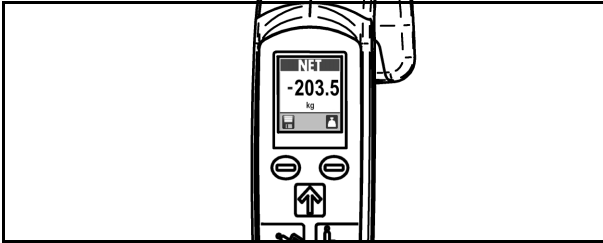

Fig. 64
- Reinstall the sling back on the Maxi Move. Ignore the minus sign preceding the digits on the screen. Allow the weight reading to stabilize. The weight shown is the patient's actual weight (see Fig. 64).